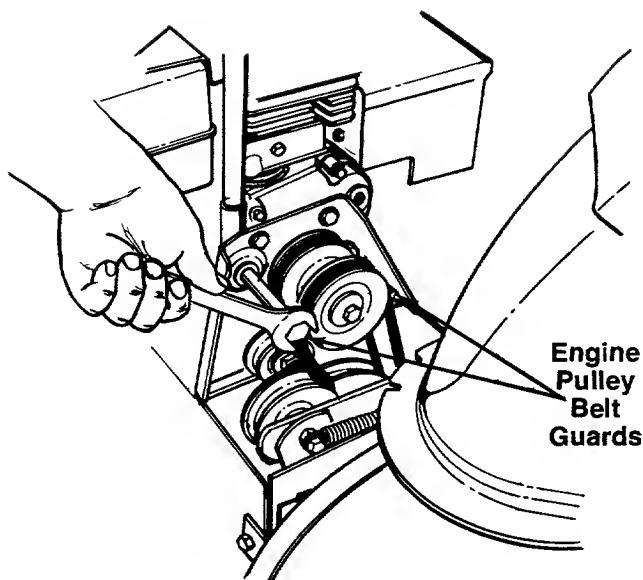

FIGURE 30.
4. Remove two engine pulley belt guards. See figure 30.